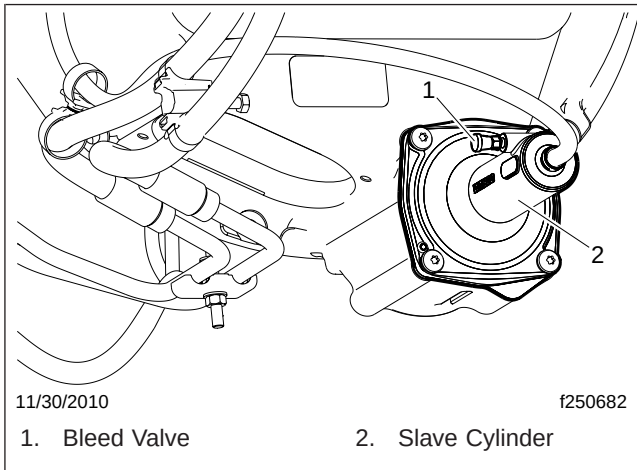

Fig. 2, Slave Cylinder, Hydraulic Clutch Control
- 4.2 Remove the cap from the bleed valve of the slave cylinder. See Fig. 2. On the valve, install a transparent drain hose connected to a catch bottle. The hose needs to fit the bleed valve tight enough so it does not fall off when fluid is pumped out.